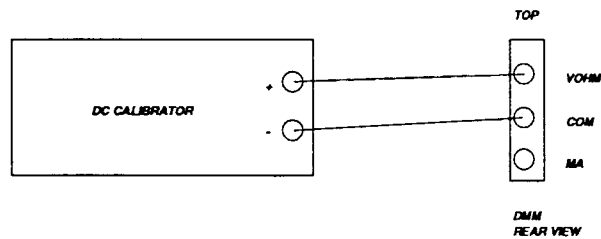

Figure 7-1. Connection of DC Calibrator to PCIP-DMM/A
2. The Start-Up screen pictured in Figure 7-5 will appear. Follow the directions given on this screen and the subsequent screens. You may wish to refer to Figure 7-1. Note that the procedure outlined are similar to the ones for performance verification. Skim the previous section prior to beginning calibration.